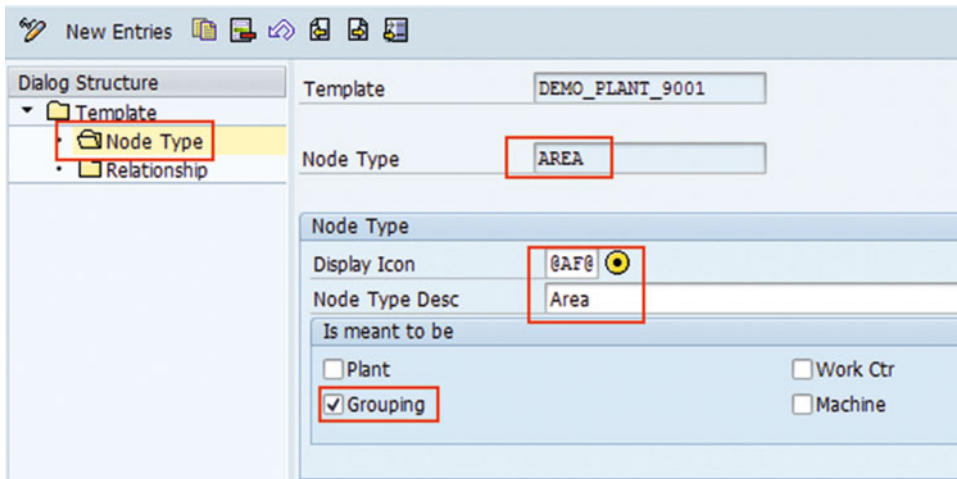

Figure 3-36. Configure plant hierarchy template: area (Level 1)
- a. Node Type: AREA (refer to Figure 3-36)